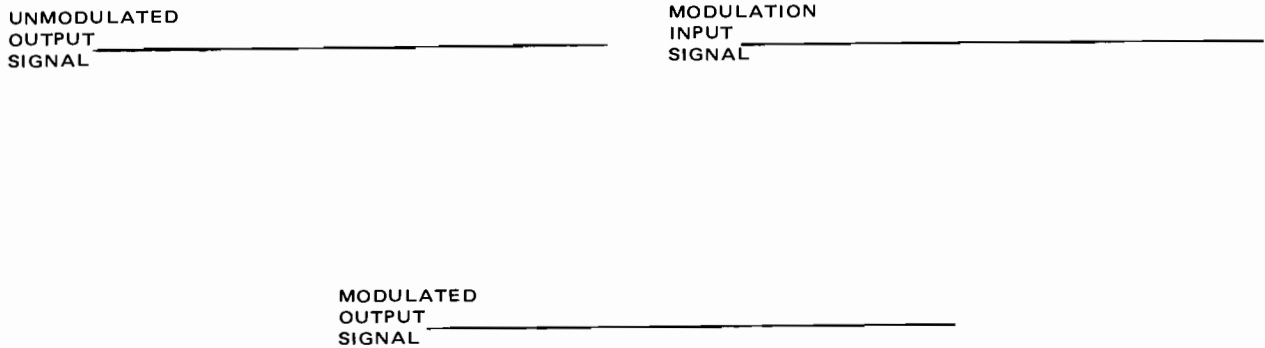

Fig. 19-2-2
4. Prepare oscilloscope for operation and connect ground lead to common negative terminal. Connect vertical probe to antenna of AM module. Make a sketch of observed waveform in provided space of Fig. 19-2-2 for unmodulated output.
7. Make a sketch of very irregular modulation input signal in Fig. 19-2-2.
9. In Fig. 19-2-2, make a sketch of very irregular waveform appearing at output when modulation occurs.